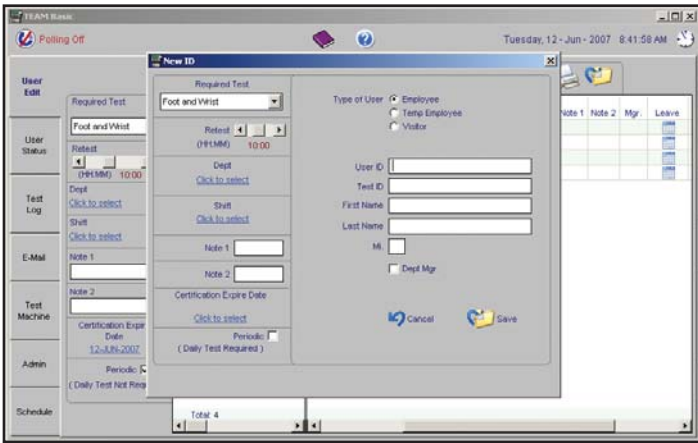

Figure 3. Manually adding a new user
- The New ID window will be displayed (see Figure 3)